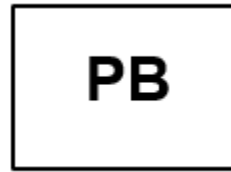

Figure 15 - PHASE
- 2.201** Phase Break (PB) Indicators and PB signs (Figure 15) are located as specified in Tables 6 & 7. The PB signs are located on the first catenary pole in advance of a phase break.